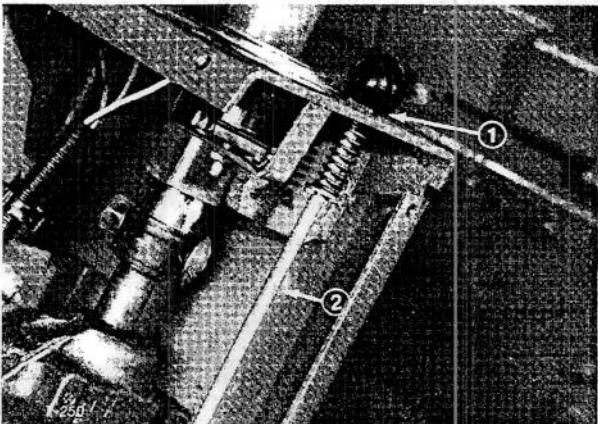

Figure 38
2. Screw knob and locknut off top end of the parking brake rod (Fig. 38).